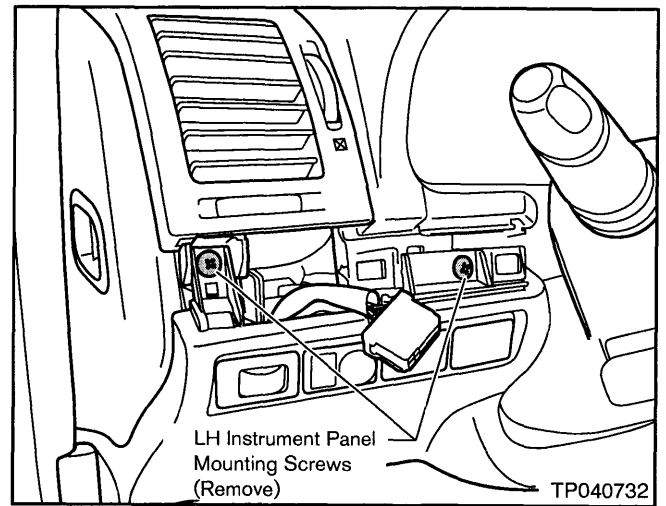

Figure 12
- e. Remove the LH Instrument Panel Mounting Screws (see Figure 12).